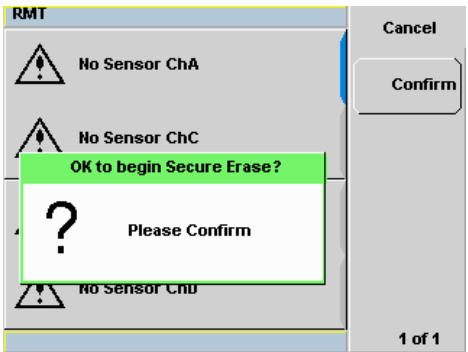

Figure 2-57 Confirmation to begin secure erase
- 2 A confirmation pop-up will be displayed, press **Confirm** to begin secure erase (see Figure 2-57).